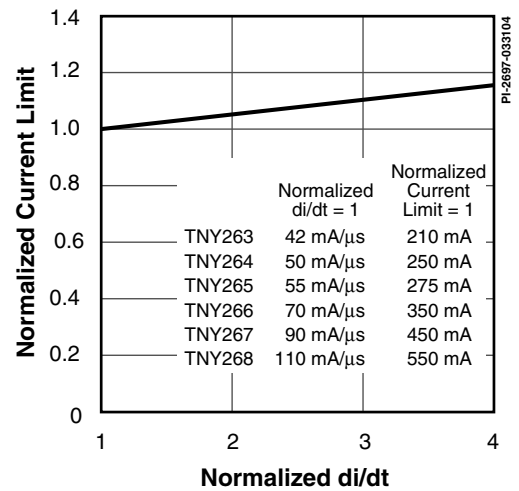

Figure 25. Current Limit vs. di/dt.
- E. For current limit at other  $di/dt$  values, refer to Figure 25.